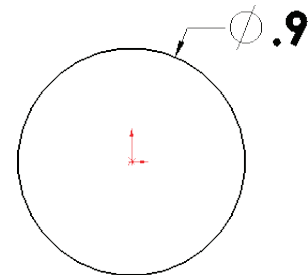

Fig. 2
Step 3. Click **Circle**  (S) on the Sketch toolbar.
Step 4. Draw **circle** starting at the Origin , **Fig. 2**.
Step 5. Click **Smart Dimension**  (S) on the Sketch toolbar.
Step 6. Dimension circle diameter **.9** as shown in **Fig. 2**.